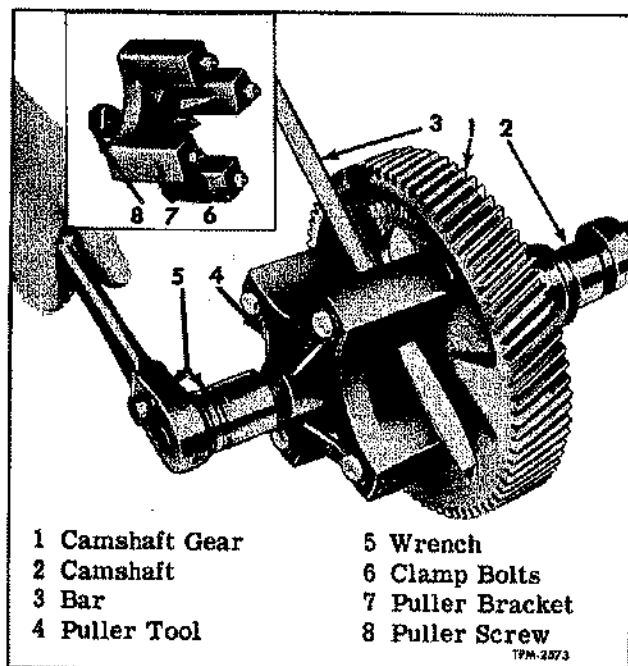

Figure 64—Removing Cam and Balancer Gears with Gear Puller
1. Support camshaft in soft jaws of bench vise, being careful not to damage cams, then pull gear from shaft, using puller tool as shown in figure 64.